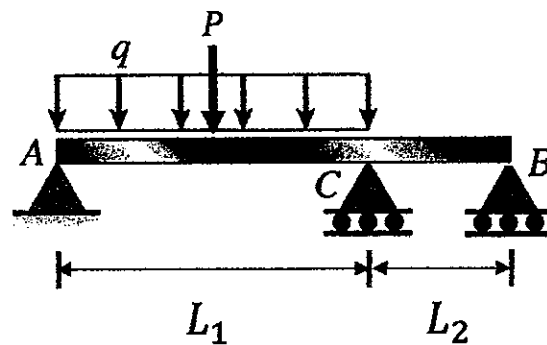

Fig. 2
- As shown in Fig. 2, beam  $ACB$  is subjected to a uniformly distributed load  $q$  in segment  $AC$ , a concentrated load  $P$  at the midpoint of segment  $AC$ . Point  $A$  is supported with a hinge, and there are roller supports at point  $C$  and  $B$ . The length of segment  $AC$  is  $L_1$ , and the length of segment  $CB$  is  $L_2$ . Beam  $ACB$  has a flexural rigidity  $EI$ . Determine the reaction at point  $B$ . (Ignore the self-weight of the beam, and express the answer in terms of  $P, q, L_1$  and  $L_2$ .)